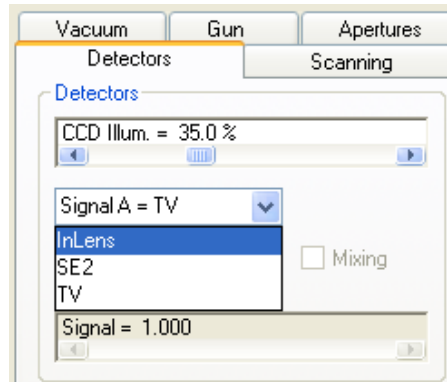

Figure 12: Detector tab.
9. Change the detector signal to InLens as shown in figure 12. The InLens detector Works only for acceleration voltages -EHT- of less than 22kV. This is because the electrons are actually slowed down by about 8kV between InLens detector and final lens. The maximum voltage that the power supply can produce is 30kV, so that at 20kV EHT setting they are accelerated to 30keV and then slowed down to 22keV before reaching the sample. This way the secondary electrons produced in the sample are accelerated back into the column by those 8kV and hit the InLens detector (it is located inside the column) with 8keV. This results in a high signal-to-noise ratio. For higher voltages (>22kV) you can use the SE2 detector, which is located in the system chamber, viewing the sample at an angle.